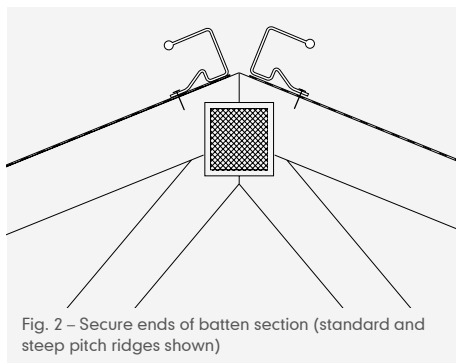

Fig. 2 – Secure ends of batten section (standard and steep pitch ridges shown)
- 4 Free ends of batten section can be restrained by either fitting a ridge union or second gauge (Figs. 2 and 3).